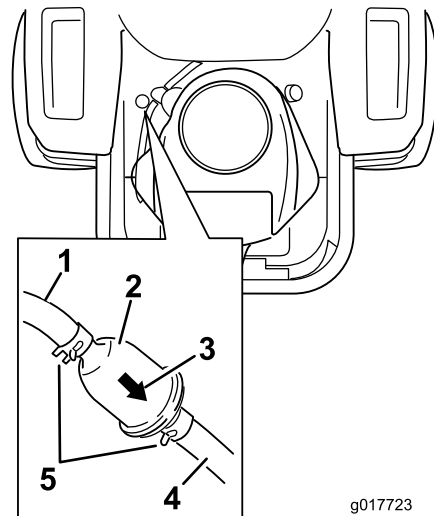

Figure 39
4. Raise the seat and locate the fuel filters as shown in Figure 39.
7. Install a new filter with the flow direction arrow coming from the fuel tank and pointing to the engine. Move the hose clamps close to the filter (Figure 39) to secure it in place.